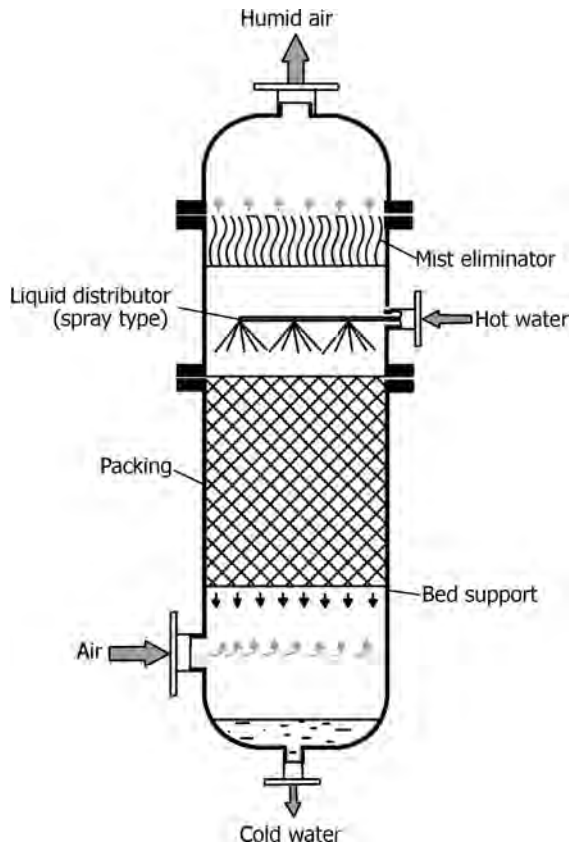

FIGURE 18.16 Packed bed humidifier.
- *Use of Packed Beds:* The water flow to the humidification column is much larger than the amount evaporated in the bed. This promotes proper wetting of the packing surface, which is essential for effective mass transfer. Since only water is evaporated into the air, the impurities, for example, salts, remain in the liquid water and exit the column with the blow-down from the water circuit. Figure 18.16 illustrates the use of packed bed humidifier.